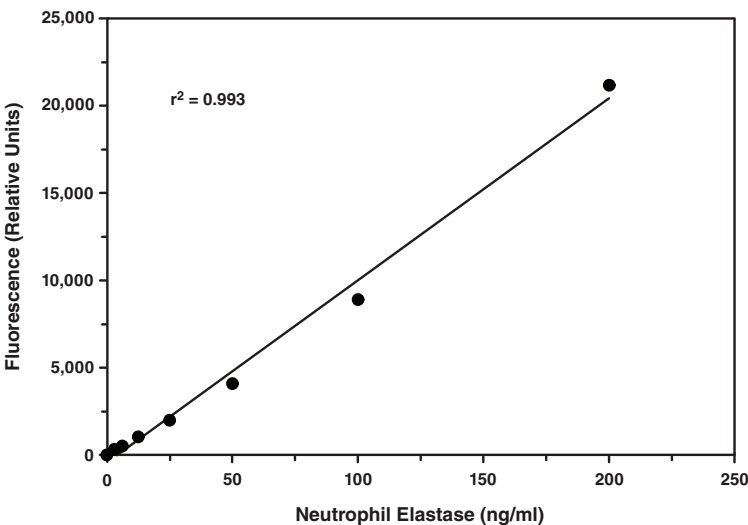

Figure 2. Human Neutrophil Elastase standard curve
3. Plot the corrected fluorescence values (from step 2 above) of each standard as a function of the final concentration of human neutrophil elastase. See Figure 2, on page 14, for a typical standard curve.